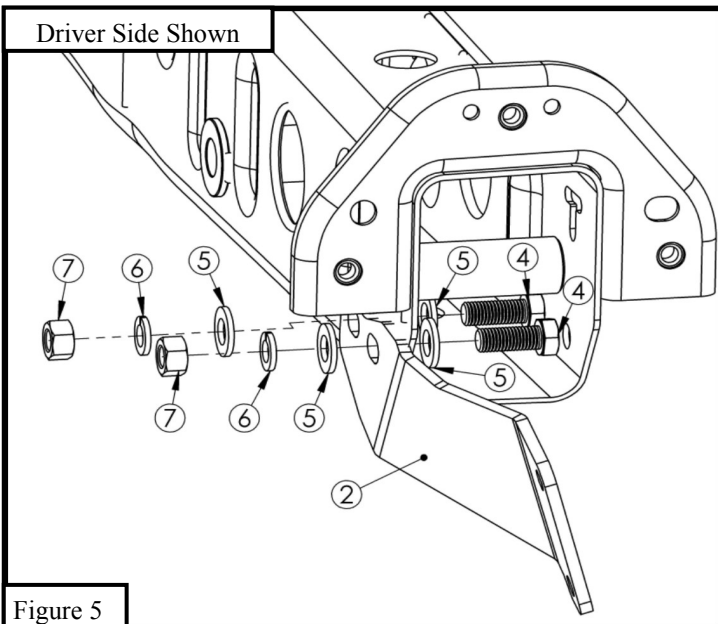

Figure 5
6. Locate (1) mount bracket (Item 2/3). Loosely install brackets using the provided M12 hardware. Repeat for other side. See **Figure 5**. See page 3 for bracket locations.